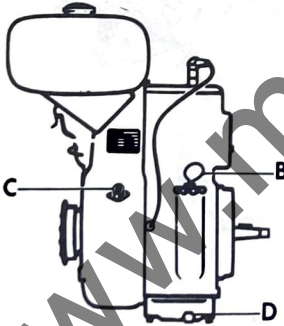

Fig. 1
Fill the fuel tank with regular petrol (minimum octane number 86 RON = two star rating) by means of a sieve funnel. Check the engine oil level with the dip stick (B, Fig. 1) pushed completely in (engine in *horizontal* position). The oil quantity should be maintained at a level between the max. and min. marks shown on the dip stick. Check the air filter ; if necessary, clean if engine is equipped with a MAG paper element air filter or an oil bath filter. Please observe the instructions contained in the lubrication and maintenance chart on page 12.
- When running with petrol : Put the engine into idling speed and press the stop button (C, Fig. 1). Close the fuel cock.
- When running with paraffin : Switch the fuel cock over to « petrol » position and let the engine run for 2-3 minutes. Then put the engine into idling speed and press the stop button (C, Fig. 1). Close the fuel cock if the engine is filled with a stop button.